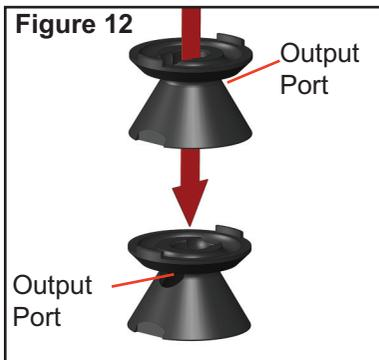

Figure 12
1. The baffle stack of the AVIATOR 2 is comprised of nine baffles; the ni-tride-coated stainless steel blast baffle with pressure relief hole and notches in the front cone, and eight identical anodized aluminum baffles with tabs on the rear face and notches in the front cone. Begin assembling the baffle stack by placing one of the aluminum baffles cone-side down on a table or flat work surface. Place another aluminum baffle on the first, so that the tabs protruding from the rear face of the baffle engage the notches on the cone of the adjacent baffle, and the output port at the junction of the cone and disk feature is 180° (opposite) from the output port of the first baffle. See Figure 12. Construct the rest of the baffle stack in this manner, alternating the output ports. The last baffle to be added to the stack will be the stainless steel blast baffle with pressure relief port. The completed stack should look like Figure 13.